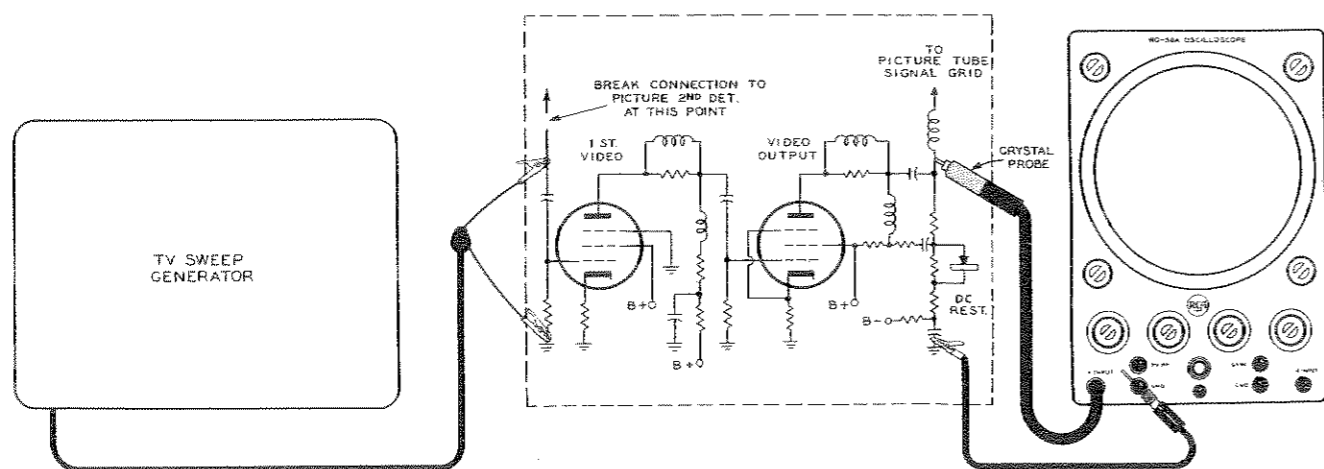

Figure 10. Setup for Checking Video-Amplifier Response
1. Set up the equipment as shown in Figure 10. Set the H GAIN selector to "LINE" position. A pattern similar to that shown in Figure 11A should be obtained.